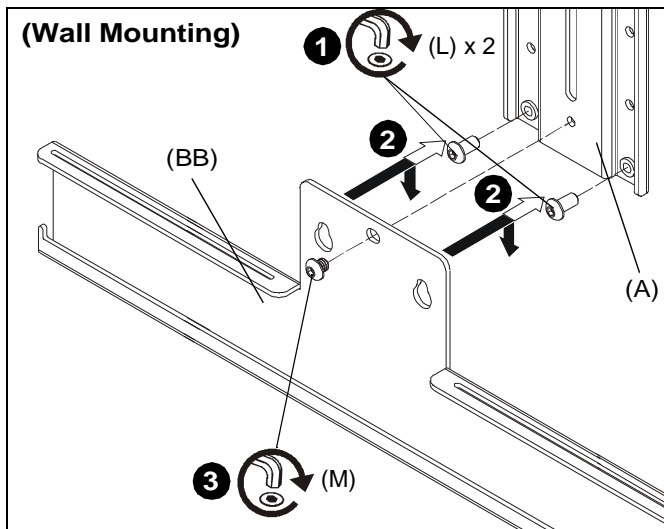
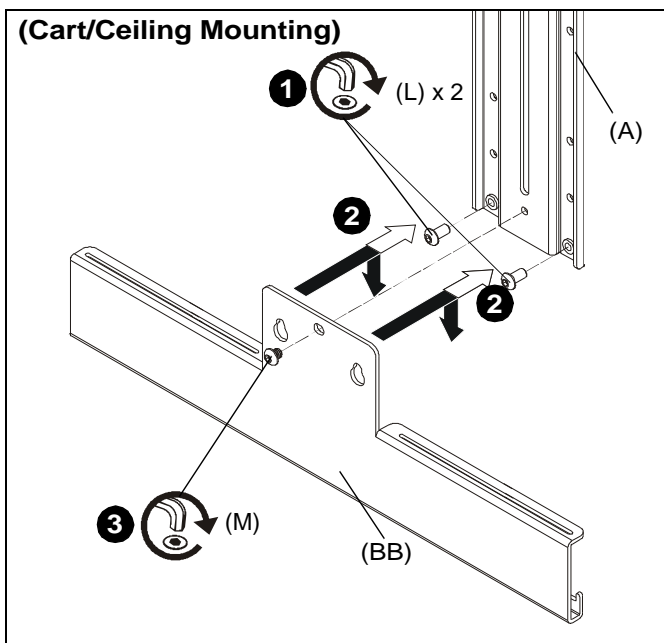

Figure 1
Figure 2
1. Install two 1/4-20 x 1/2" button head cap screws (L) into lowest holes on upright bracket (A). (See Figure 1) or (See Figure 2)
2. Hang speaker bracket (BB) onto two screws installed in Step 1. (See Figure 1) or (See Figure 2)
3. Use one 1/4-20 x 1/4" button head cap screw (M) to secure upright bracket (A) to speaker bracket (BB). (See Figure 1) or (See Figure 2)
4. Tighten all three screws to ensure upright bracket (A) is securely attached to speaker bracket (BB).